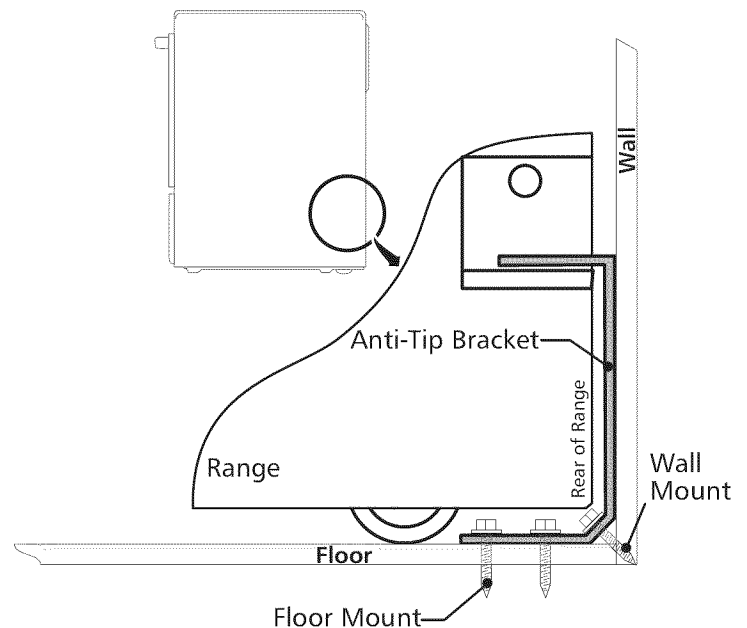

Figure 13
4. Remove template and place bracket on floor. Line up holes in bracket with marks on floor/wall and attach with screws provided. Bracket must be secured to solid floor or wall (Figure 13). If attaching to concrete floor, first drill 3/16" (0,48 cm) dia. pilot holes using masonry drill bit.